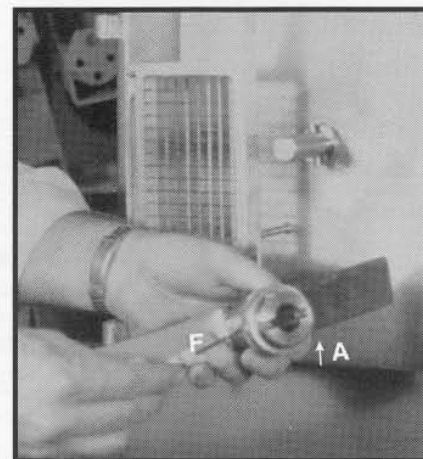

FIGURE 4
REFERENCE FIGURE 1 (Page 4) AND FIGURE 4 (Page 2).
**CAUTION:** Knife is sharp. Remove F — Knife Assy. from E — Disc by loosening the Nylon Lock Screw and removing the adjustment ring. [Figure 4] [Note: Threads are left hand.] Reinstall adjustment ring onto Knife assy. and SNUG nylon lock screw when proper adjustment is made. [See instructions for knife adjustment later in this brochure.]
1. Loosen nylon lock screw. [Figure 4(A)]
3. Snug nylon lock screw (A).